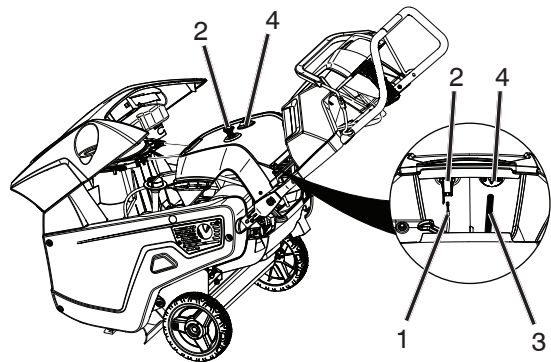

Figure 30
12. Unplug electrical wires on back of ignition switch (Figure 30).
21. Reattach primer bulb tube to primer bulb and electrical wires on back ignition switch of rear upper cover (Figure 30).